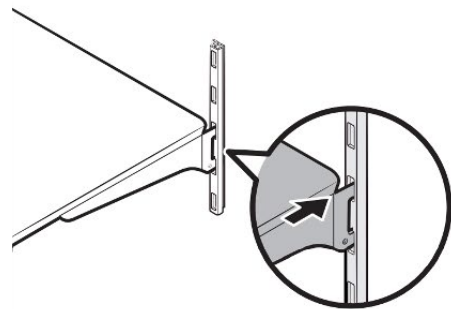

Figure 2
- Hold the shelf at an angle so the front is higher than the back, and then insert the top hook into the top shelf notch (see Figure 2).